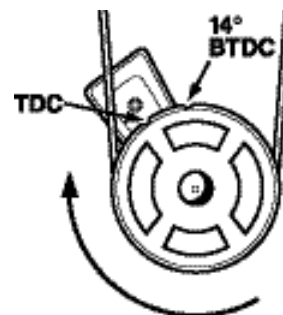

Figure 14: Timing Marks
- The crankshaft pulley notch mark for 13° Before Top Dead Center (BTDC) should now align with the timing pointer (Figure 14). If it does not, the injection pump needs to be timed.